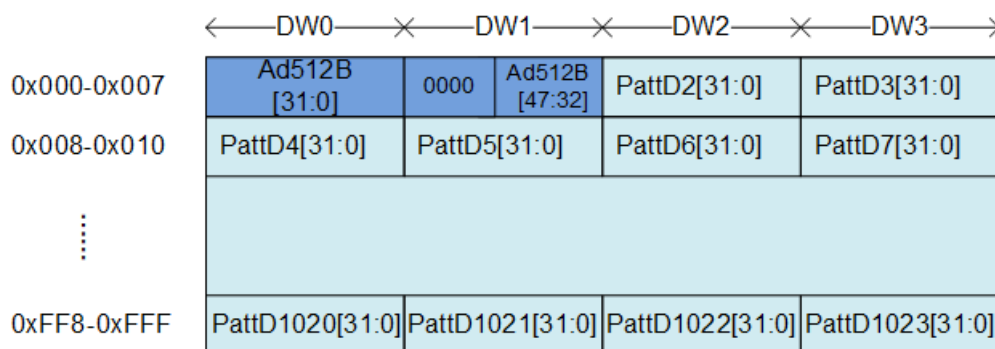

Figure 2-4 Test pattern format of 4096-byte data for Increment/Decrement/LFSR pattern
As shown in Figure 2-4, 4KB data consists of 64-bit header in DW#0 and DW#1 and the test data in DW#2 – DW#1023. 64-bit header is assigned by a physical address of SSD which stores this 4KB data. The header is designed by AddrCnt (Header). It is up-counter, similar to Addr Counter in Command block (1), but the value is increased after finishing transferring each 4KB data. While the remaining data is the test pattern which may be 32-bit incremental data, 32-bit decremental data, or 32-bit LFSR counter, selected by PattSel. The 32-bit incremental data is designed by combining current address, rHdrAddr, with the lower bit of data counter, rDataCnt[7:0]. The decremental data is designed by using NOT logic to the incremental data. The equation of 32-bit LFSR data is $x^{31} + x^{21} + x + 1$. Four 32-bit LFSR data must be generated within one cycle to create 128-bit data. Therefore, the logic uses look-ahead style to generate four LFSR data in the same clock.